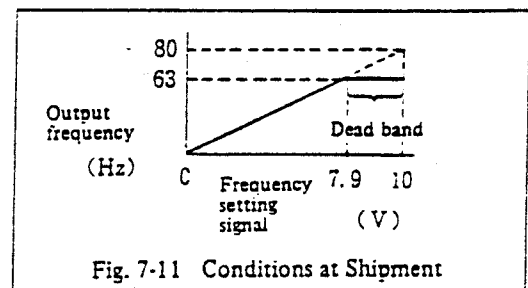

Fig. 7-11 Conditions at Shipment
When 0 to +10V DC voltage is applied across terminals RR - CC, output 0 to 80 Hz is obtainable. In this case, the maximum frequency is set to 63 Hz at shipment. For that purpose, as shown in Fig. 7-11 below, adjusting allowance of setting device exists in the range of 60 to 80 Hz.
(2) In case of external voltage signal (0 ~ 10V)
- According input 0 ~ 10V between terminals RR - CC., output frequency 0 ~ 80 Hz is obtainable. But, maximum frequency is set to 63 Hz at shipment. As a result, as shown in Fig. 7.11, adjusting allowance of frequency setting device exists in the range of 60 to 80 Hz.